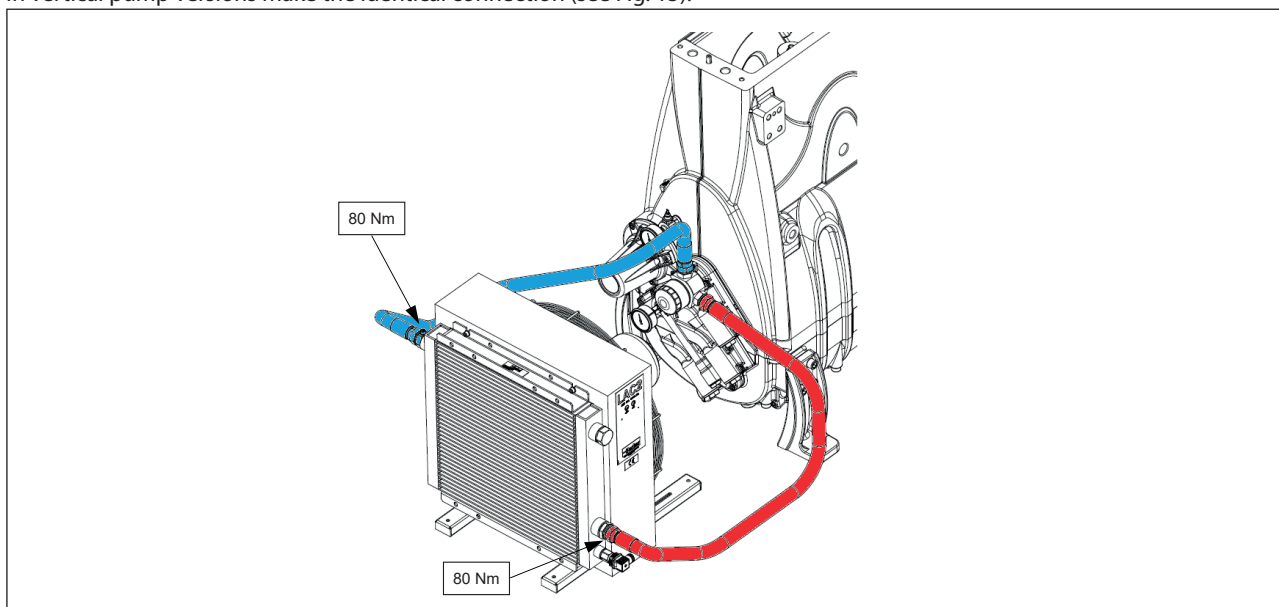

Fig. 15
2. Connect the first pipe by means of the 90° bend to the fitting located at the inlet of the exchanger, located on the bottom side of the exchange (see fig. 15). Tighten to 80 Nm torque.
In vertical pump versions make the identical connection (see Fig. 15).